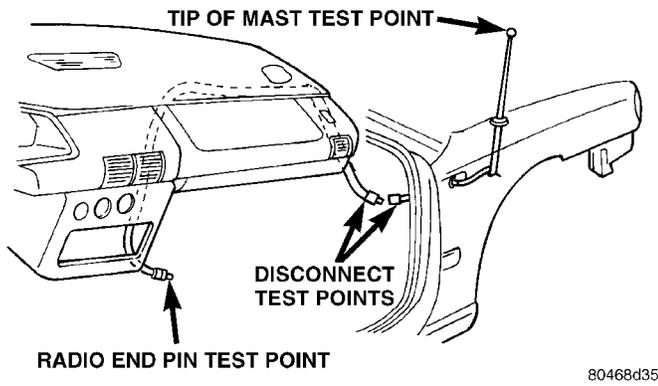

Fig. 1 Antenna Test Points
- (1) Continuity should be present between the antenna mast and radio end pin of antenna cable plug (Fig. 1).
- (2) No continuity should be observed or a very high resistance of several megohms between the ground shell of the connector and radio end pin.
- (3) Continuity should be observed between the ground shell of the connector and the mounting hardware on the vehicle antenna. The wheel well splash shield must be removed for access to the antenna that is mounted on load beam.